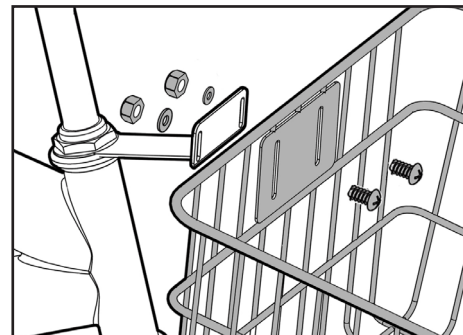
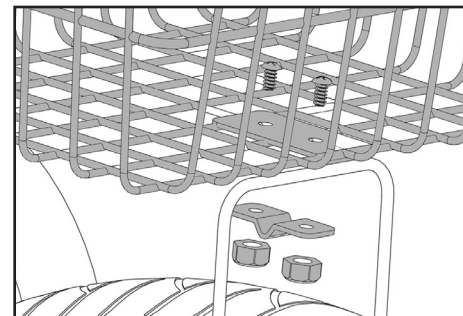

Figure 42
Figure 43
To install the basket onto the front of your bicycle, first you must remove the stem and handlebars from your bicycle. Use the appropriate (C) Allen Wrench to loosen the stem bolt on the stem, being careful not to unscrew the stem wedge completely from the stem bolt. Once it is loose enough, remove the stem and handlebars by pulling the stem up and out of the head tube. Then, use the (E) Standard Slip Joint Pliers to loosen the topmost nut from the headset. Place the stem basket mount around the steer tube, then replace the topmost headset knut, and tighten it with the (E) Standard Slip Joint Pliers. Reinsert the stem and handlebars, line them up correctly with the tire, and retighten the stem bolt. Now, line up the slots on the basket with the slots on the basket mount, insert the basket mount bolts, slide a washer and locknut onto the bolts, and tighten the nut and bolt using the (E) Standard Slip Joint Pliers and (C) Allen Wrench (see Figure 42).
Then, you must install the dropout basket mount. Line up the eyelets on the mount with the appropriate holes (see Figure 42), and insert and tighten the provided bolts to secure the mount to the drop outs. Place the mount bracket around the dropout basket mount, line it up with the holes in the bottom of the basket, and insert the provided bolts through the holes in the basket and the bracket, and fasten a locknut on the bolt on the underside of the basket (see Figure 43).